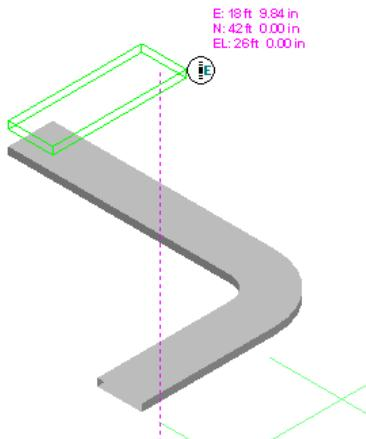

Figure 21: Third Cableway Section in East Direction
19. Position the cursor in the east E direction and click to define the end point to place **6 ft** cableway, as shown in Figure 21.